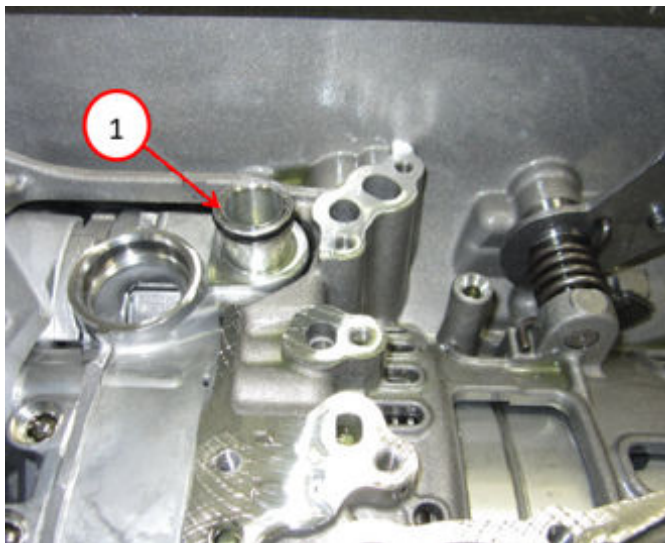

Fig. 13
20. Remove the input shaft O-ring using a small pick or equivalent Fig. 13.